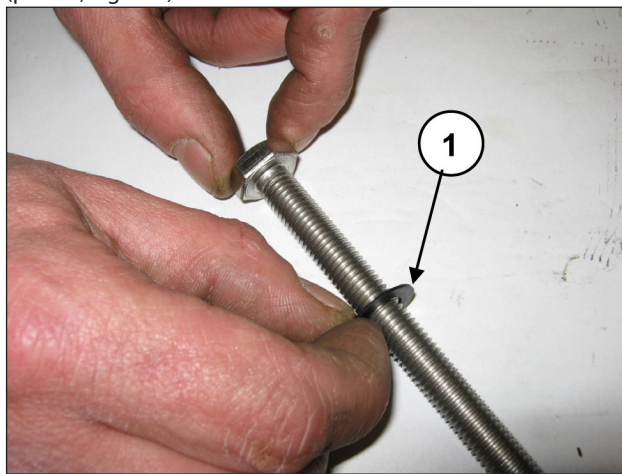

Fig. 176
Insert the $\varnothing 10 \times 18 \times 0.9$ washer in the piston fixing screw (pos. ①, Fig. 176).